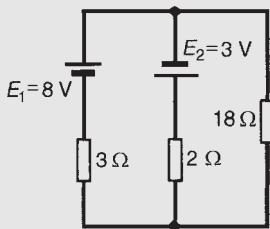

Figure 13.21
**Problem 6.** For the circuit shown in Fig. 13.21, find, using the superposition theorem, (a) the current flowing in and the p.d. across the  $18\ \Omega$  resistor, (b) the current in the  $8\text{ V}$  battery and (c) the current in the  $3\text{ V}$  battery.